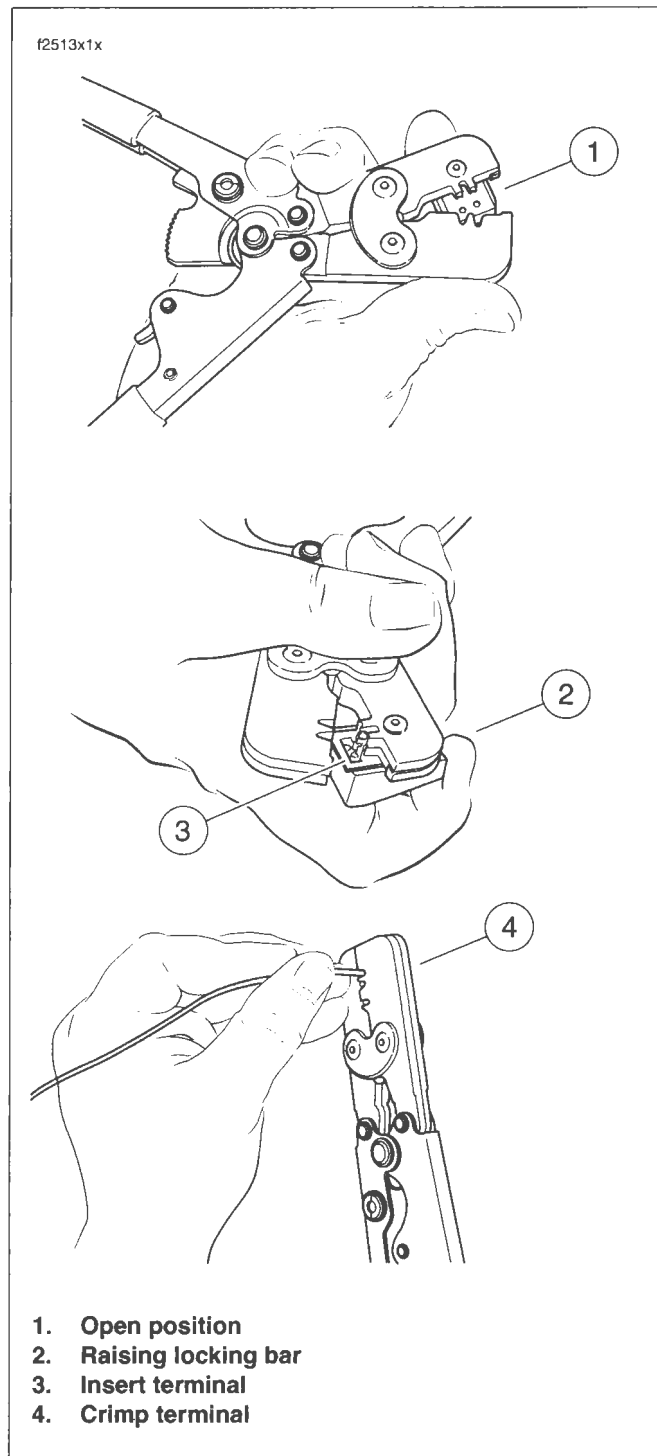

Figure B-47. Terminal in Crimper
2. See Figure B-47. Squeeze the handles of the PACKARD MICRO 64 TERMINAL CRIMPER (HD-45929) to cycle the tool to the fully open position (1).
3. Raise locking bar and barrel holder by pushing up on bottom tab with index finger (2).
4. With the crimp tails facing upward, insert terminal through locking bar into front hole in barrel holder (20-22 gauge wire) (3).